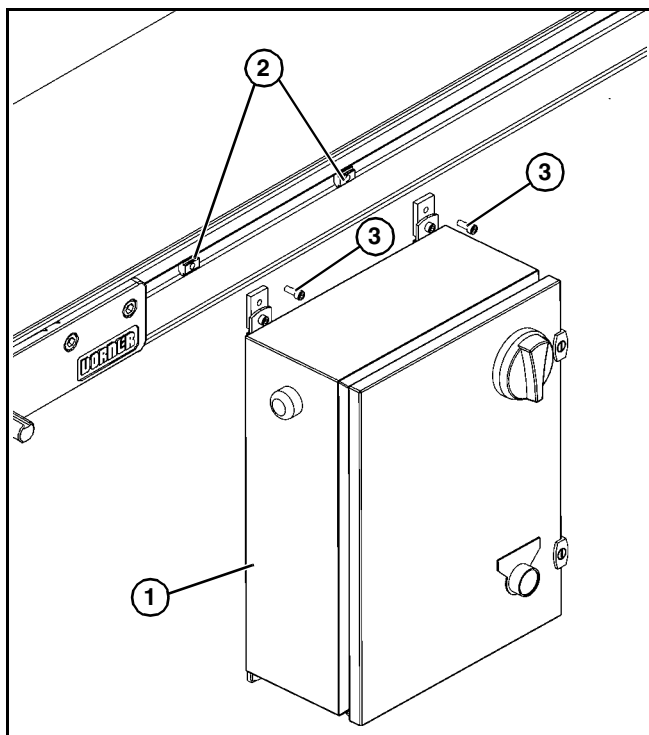

Figure 3
1. Attach controller (**Figure 3, item 1**) to conveyor with two drop-in tee bars (**Figure 3, item 2**) and capscrews (**Figure 3, item 3**).